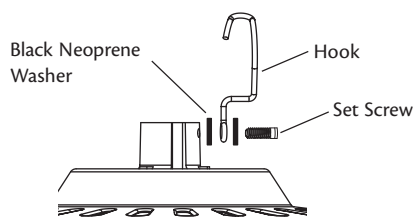

Figure 14 - Assembling the set screw for low profile assembly
4. Put the set screw, previously removed, through the two black neoprene washers and the hook as shown in Figure 14. Hook must be installed in same orientation as shown in Figure 14.
5. Reassemble the set screw to the adapter as shown in Figure 14.